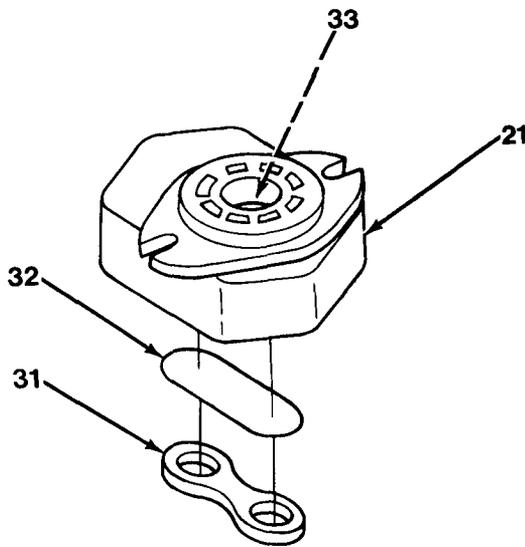

Figure 13-6
2. Press new shaft seal (33) in front body (21) to 0.156 in. (3.96 mm) below face of front body (21, Figure 13-6).
3. Install loading seal (32) into wear plate (31). Use a small amount of grease MIL-G-10924 to retain loading seal (32) in groove of wear plate (31) during installation. The flat surface of loading seal (32) should face out and will stick up slightly out of wear plate (31).
4. Install wear plate (31) and loading seal (32) into gear pocket of front body (21). Install wear plate (31) with flat side up and seal ends pointing toward the inlet side.